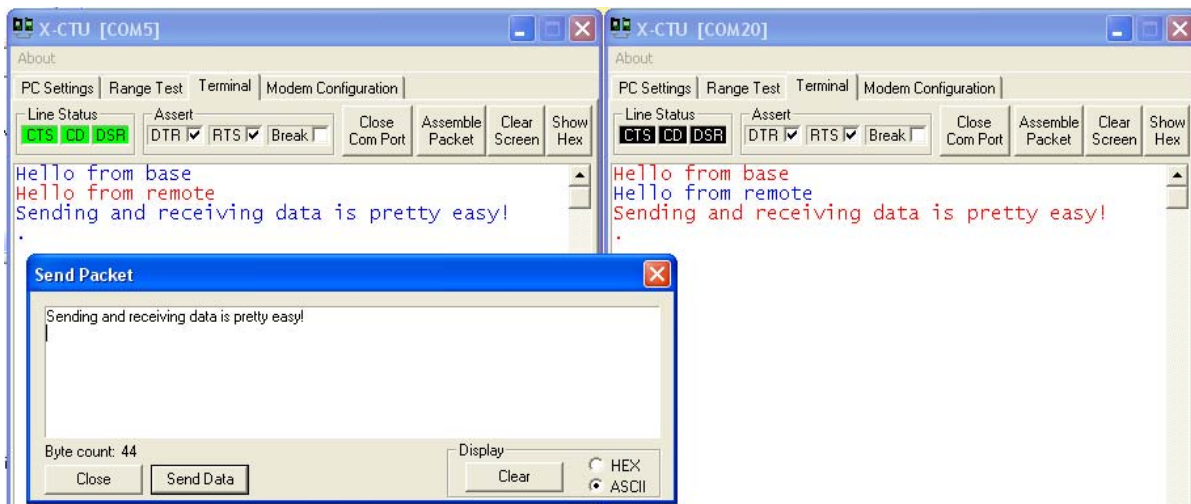

Figure 4-11: Serial Pass Through Chatting
- ✓ Test using the Send Packet window as well as shown in Figure 4-11.